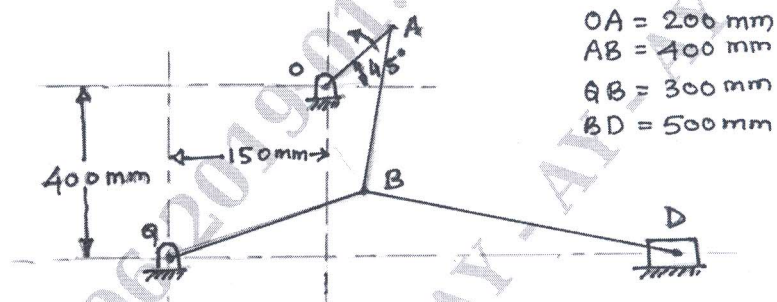

Fig.Q4(a)
- b. A four bar mechanism is shown in Fig.Q4(b). The dimensions of links are :